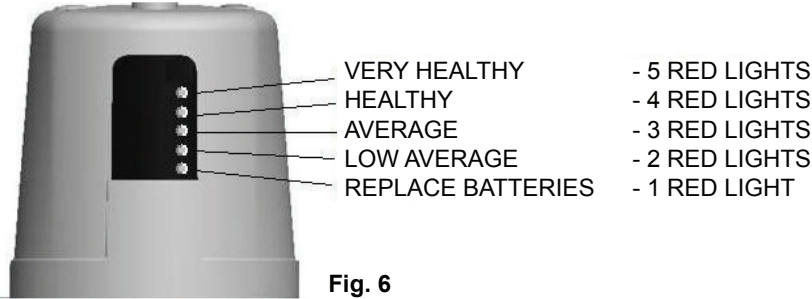

Fig. 7
- If 30 minutes have passed since the initial power-up of the valve - open up the battery compartment (Figures 7 and 8) and disconnect the battery snap for 10 seconds. Reconnect and replace the chrome cover and screws. If hardwired - disconnect battery snap to the hardwire converter for 10 seconds.
1. Remove the two cover screws and lift off CP metal cover, see Figure 7.